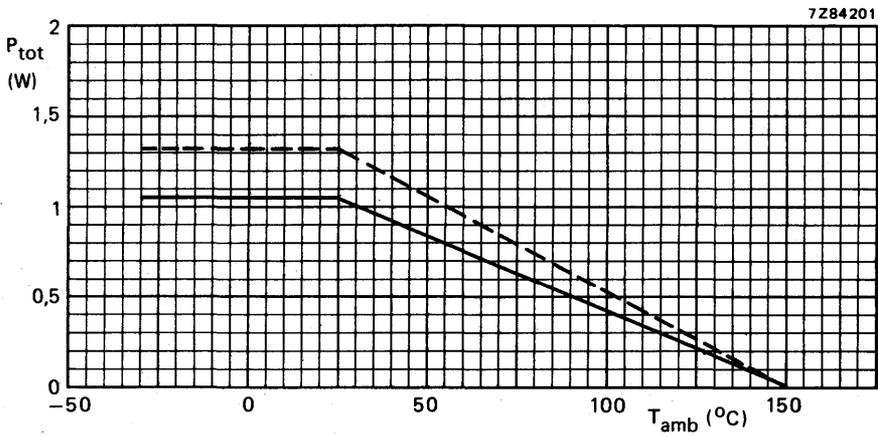

Fig. 2 Power derating curves; — SOT-38; --- SO-16, SOT-109A mounted on a ceramic substrate of 50 x 15 x 0,7 mm.
* Based on nominal application, Fig. 3; for deviating periphery see power derating curve Fig. 2.